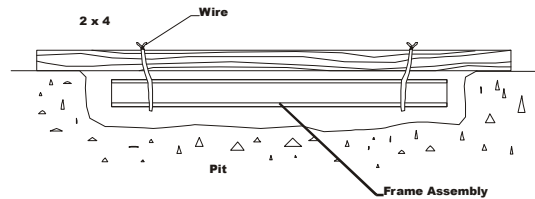

FIG. 26 - EXCAVATED PIT AND SUPPORT FOR THE PIT FRAME
- Step 6. Set two 2 x 4's on edge (longer than the width of the hole) across the opening. (See Fig. 26)
- Step 8. With the frame supported by the wire and 2 x 4's, use a spirit level to set the frame flush with the surrounding floor, level the frame to within 1/8", corner to corner, side to side and diagonally, and at the correct height by twisting or untwisting the wires. (See Fig. 26)
- Step 3. Drill the two (2) outer holes using a hammer drill. (See Specifications/Anchor Bolt Holds above for hole dimensions)
- Step 4. Insert the anchor bolts with the nut and washer already ON. (See Fig. 26)